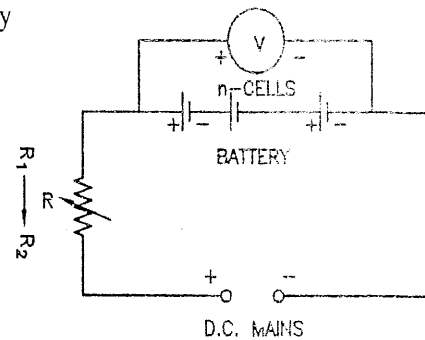

FIG. 5.22 : CONSTANT CURRENT METHOD OF CHARGING A BATTERY.
- In this method, the charging current supplied to the battery is kept constant throughout the charging period by adjusting the value of variable resistor R as shown in Fig. 5.22.